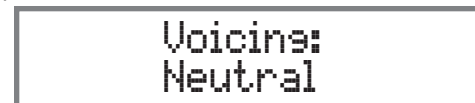

Figure 63
1. Press the TRIM Push-button until “Voicing:” appears on the Front Panel Display. Refer to figure 63.